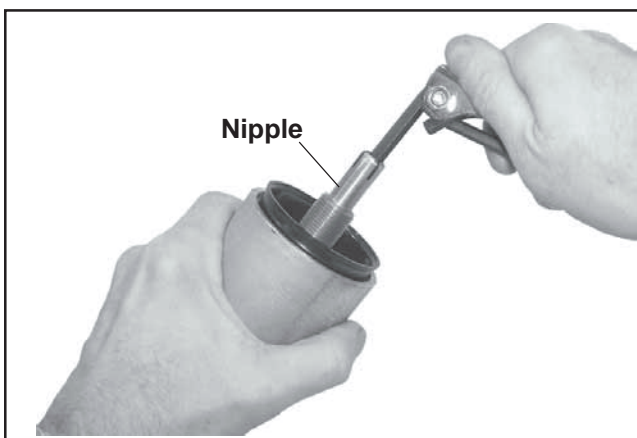

Figure 8-22. Removing Nipple.
- a. Remove the nipple from the cup and oil filter housing. See Figure 8-22.